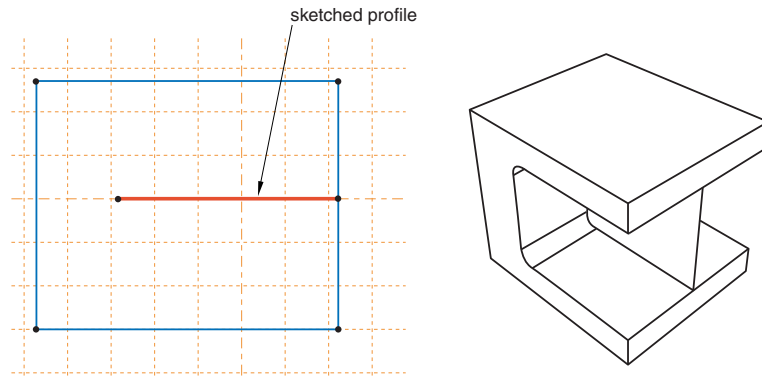

Figure 11-3 A shell feature.
2. A stiffening web is added as a shell feature. The user sketched a line on one of the internal faces and extruded the sketch to the opposite face, as shown in Figure 11-3. The sketch is the only modifiable parameter that defines the shell feature.